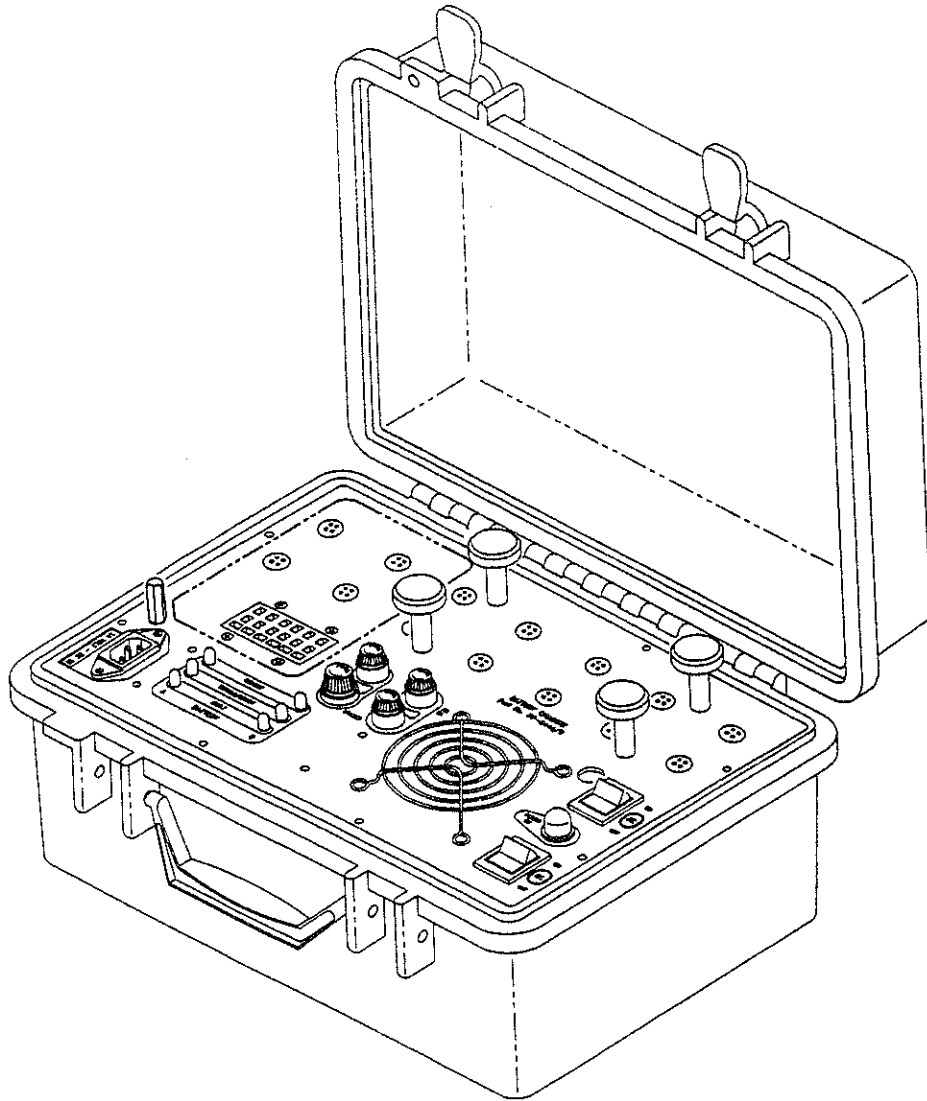

Figure 1-1. Battery Charger PP-8444/U or PP-8444A/U
Universal Portable Battery Charger PP-8444/U or PP-8444A/U, fig. 1-1, are portable chargers used for rapid charging of various types of field equipment batteries. Use this manual for unit and direct support maintenance of the battery charger.
a. Components. The battery charger components are housed in a non-conductive ABS equipment case, as shown in Figure 1-1. The assembled unit is air-tight when the gasketed cover is latched securely and the pressure equalizer relief valve on the bottom of the case is closed.